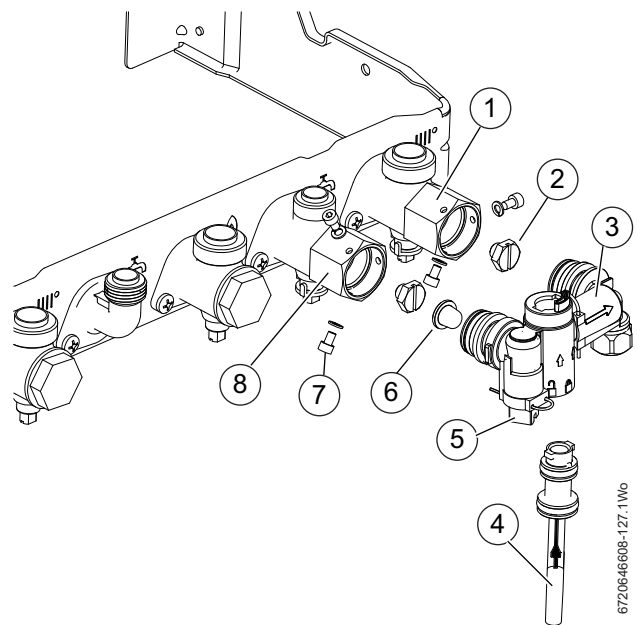

Fig. 30 Fitting the Filling link
- ▶ Fit the Filling link assembly onto the DHW inlet and CH return connections, refer to figure 30